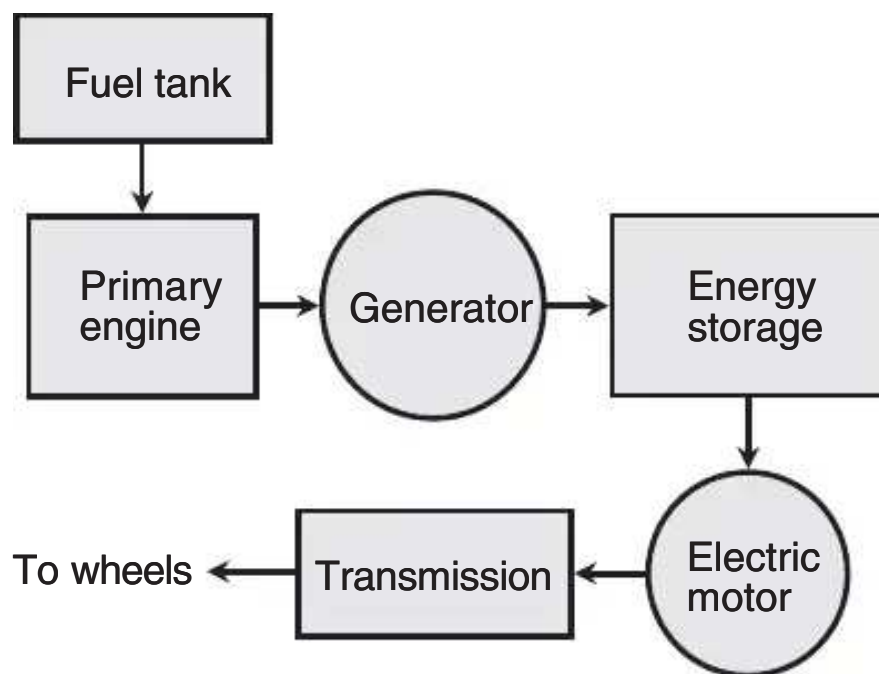

Figure Exam-2 Diagram for question 26.
26. Figure Exam-2 is a block diagram of